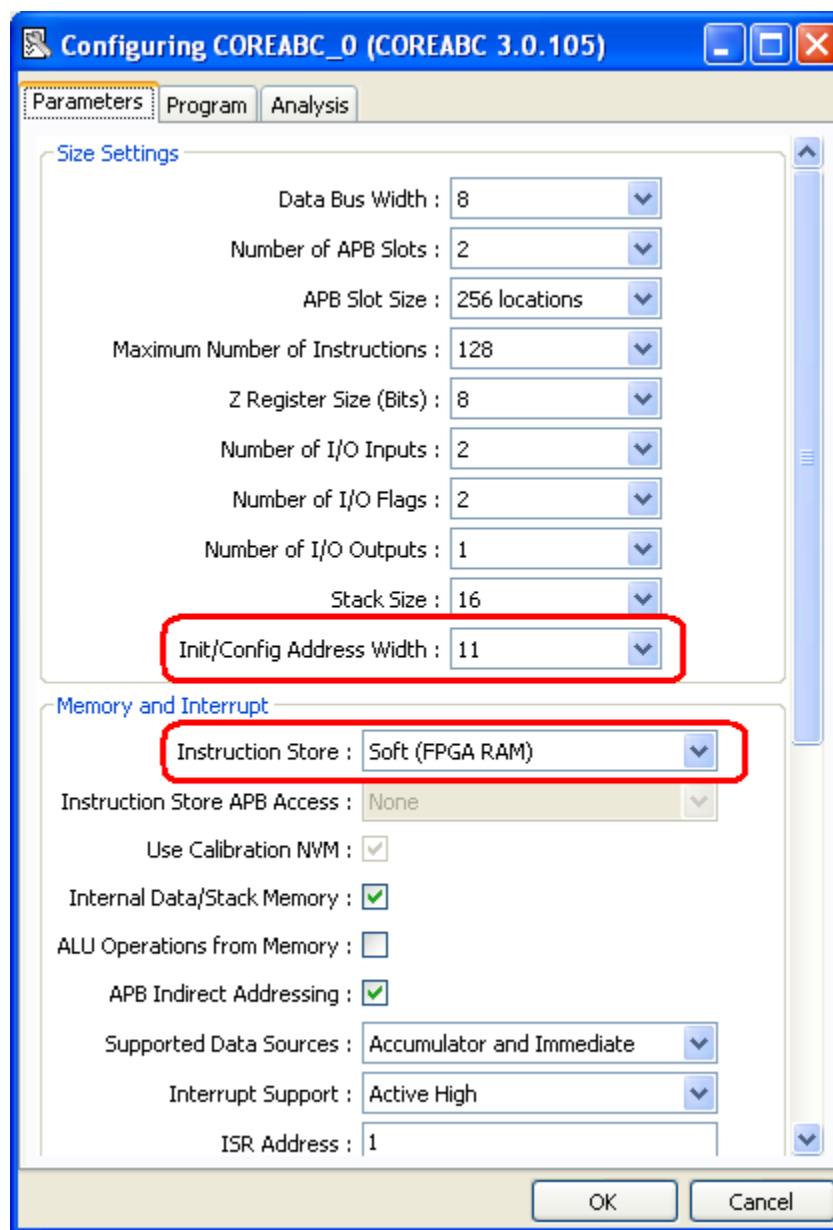

Figure 7-2 • Init/Config Address Width
1. Set the Instruction Store option to **Soft (FPGA RAM)** as shown in Figure 7-2. If there are any validation warnings, ensure that the Init/Config Address Width is configured appropriately.